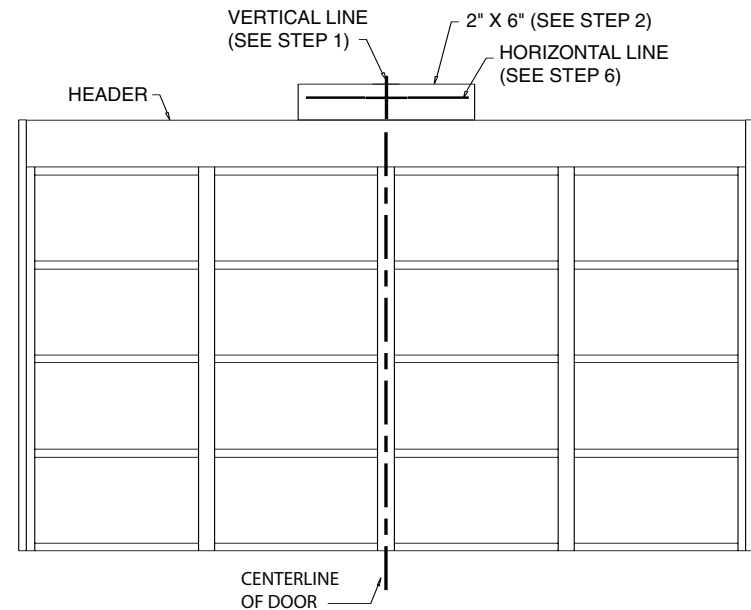

Figure 7
- 1) Measure the width of the door to determine the center. Make a vertical line as shown in **Fig. 7**. (If the vertical line is not in line with a door stile, a means of attaching the spring box to the door must be provided. This can be accomplished by spanning the center of the door's top section (between the top and bottom rail) with a suitable material such as wood or steel.
- 2) Prepare for attaching drawbar to header. If suitable woodwork is not already in place, securely affix a 2" x 6" block of wood as shown in **Fig. 7**.